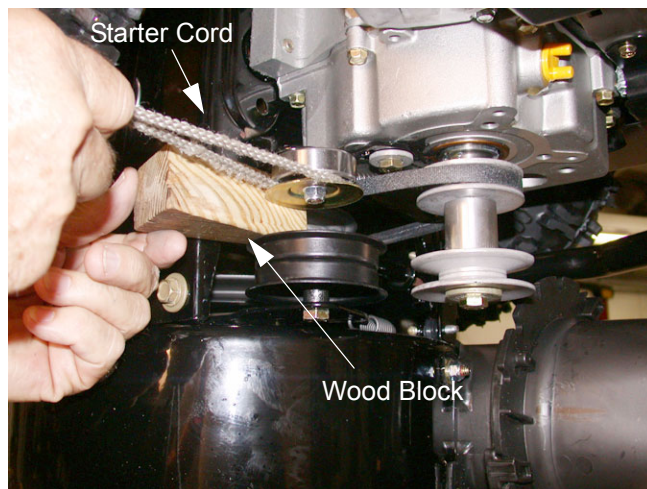

Figure 17
- 9.2. Use a length of starter cord to pull the drive belt idler pulley toward the right, away from the belt. See Figure 17.